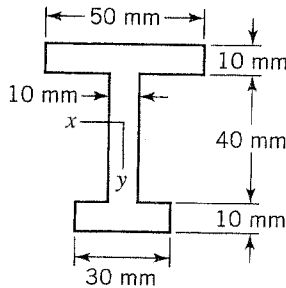

FIGURE P7.3
7.3. The cross section of a modified I-section beam is shown in Figure P7.3. A positive bending moment causes a maximum compressive flexural stress in the beam of magnitude 50 MPa. Determine the magnitude of M_x and the maximum tensile flexural stress for the cross section.